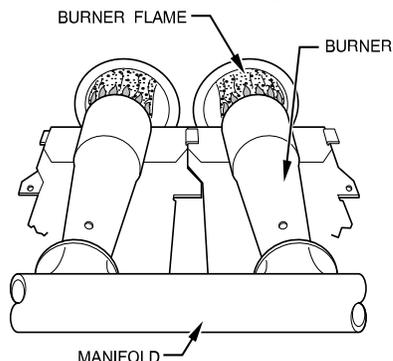

Fig. 64 – Burner Flame
- c. When correct input is obtained, replace caps that conceal gas valve regulator adjustment screws. Main burner flame should be clear blue, almost transparent See Fig. 64.